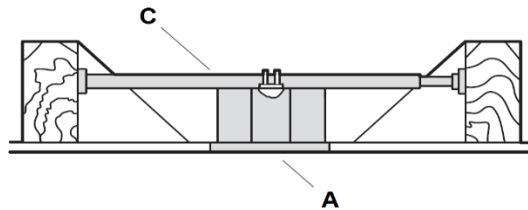

Fig. 4
To hang your fan where there is an existing fixture but no ceiling joist, you may need an installation hanger bar (C) as shown in Fig.4. Make sure the hanger bar you purchase has been designed for use with ceiling fans.